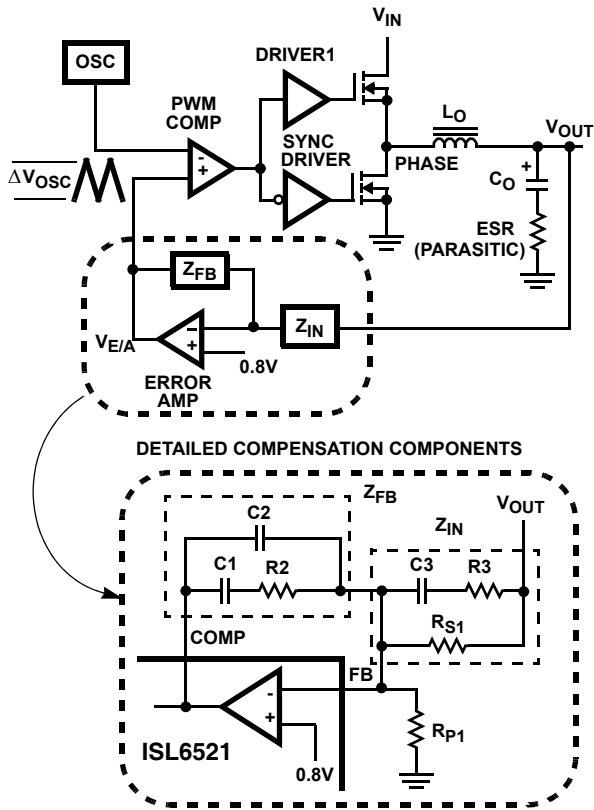
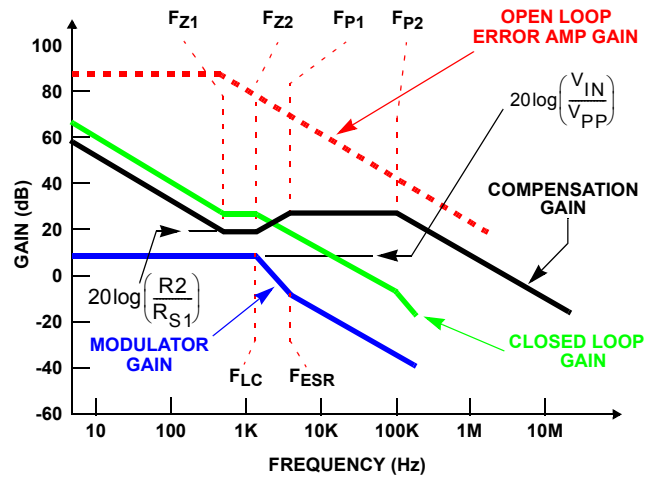

FIGURE 5. VOLTAGE-MODE BUCK CONVERTER COMPENSATION DESIGN
FIGURE 6. ASYMPTOTIC BODE PLOT OF CONVERTER GAIN
Figure 5 highlights the voltage-mode control loop for a synchronous-rectified buck converter. The output voltage ( $V_{OUT}$ ) is regulated to the reference voltage level, 0.8V. The error amplifier (Error Amp) output ( $V_{E/A}$ ) is compared with the oscillator (OSC) triangular wave to provide a pulse-width modulated (PWM) wave with an amplitude of  $V_{IN}$  at the PHASE node. The PWM wave is smoothed by the output filter ( $L_O$  and  $C_O$ ).
The compensation network consists of the error amplifier (internal to the ISL6521) and the impedance networks  $Z_{IN}$  and  $Z_{FB}$ . The goal of the compensation network is to provide a closed loop transfer function with high 0dB crossing frequency ( $f_{0dB}$ ) and adequate phase margin. Phase margin is the difference between the closed loop phase at  $f_{0dB}$  and 180 degrees. The equations below relate the compensation network's poles, zeros and gain to the components ( $R_1$ ,  $R_2$ ,  $R_3$ ,  $C_1$ ,  $C_2$ , and  $C_3$ ) in Figure 5. Use these guidelines for locating the poles and zeros of the compensation network:
Figure 6 shows an asymptotic plot of the DC-DC converter's gain vs. frequency. The actual Modulator Gain has a high gain peak dependent on the quality factor (Q) of the output filter, which is not shown in Figure 5. Using the above guidelines should yield a Compensation Gain similar to the curve plotted. The open loop error amplifier gain bounds the compensation gain. Check the compensation gain at  $F_{P2}$  with the capabilities of the error amplifier. The Closed Loop Gain is constructed on the log-log graph of Figure 6 by adding the Modulator Gain (in dB) to the Compensation Gain (in dB). This is equivalent to multiplying the modulator transfer function to the compensation transfer function and plotting the gain.